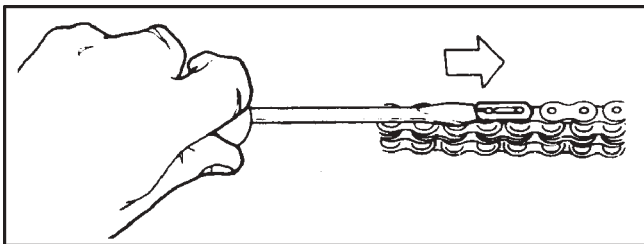
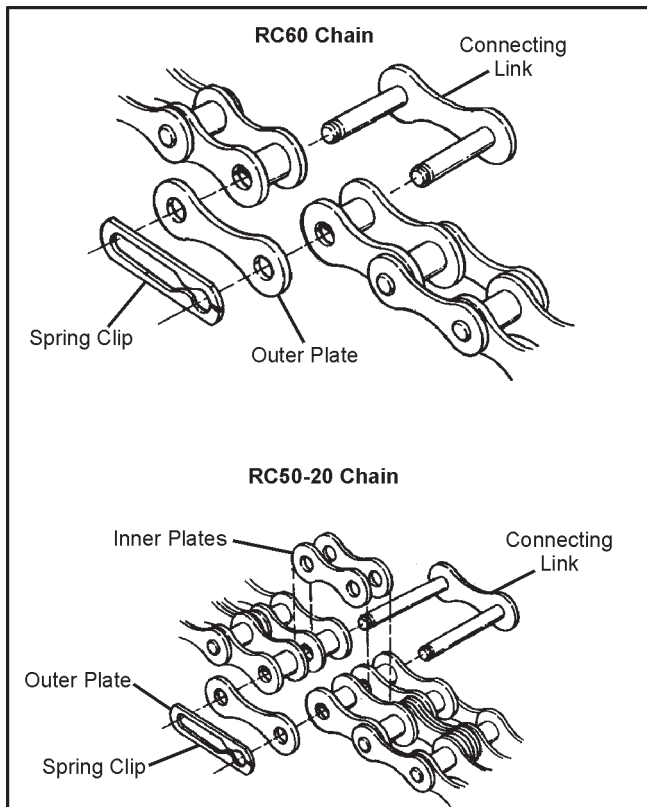

Figure 7-7. Removal of the spring clip.
Figure 7-8. Chain connection link components.
5. Remove the spring clip from the connecting link as shown in Figure 7-7. Remove the outside plate and tap out the connecting link. The inside plates will be released when the connecting link is removed (Figure 7-8).
2. Pull the ends of the chain together and insert the connecting link as shown in Figure 7-8 and 7-9. When connecting the RC50-2 chain, insert the inside plates before tapping the connecting link into position.
2. Remove the spring clip or cotter pins, depending on model, from the connecting link. Remove the outside plate and tap out the connecting link. On models that utilize a double 40 or 50 drive chain, as the connecting link is removed, the inside plates will be released (refer to Figure 7-8). Models with single 60 drive idler chains have no inside plates.
3. Replace the outside plate and spring clip as shown in Figure 7-7. Note: Avenger and Frontier models are secured with two (2) cotter pins. Always use new cotter pins.